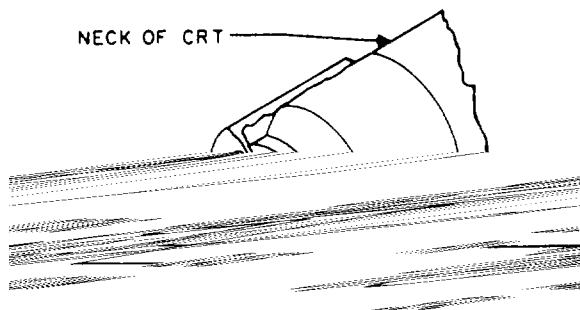

Figure 1-13.—Cathode-ray tube base structure.
- Carefully break off the plastic locating pin from the base (fig. 1-13). This can be done by crushing the locating pin with a pair of pliers.